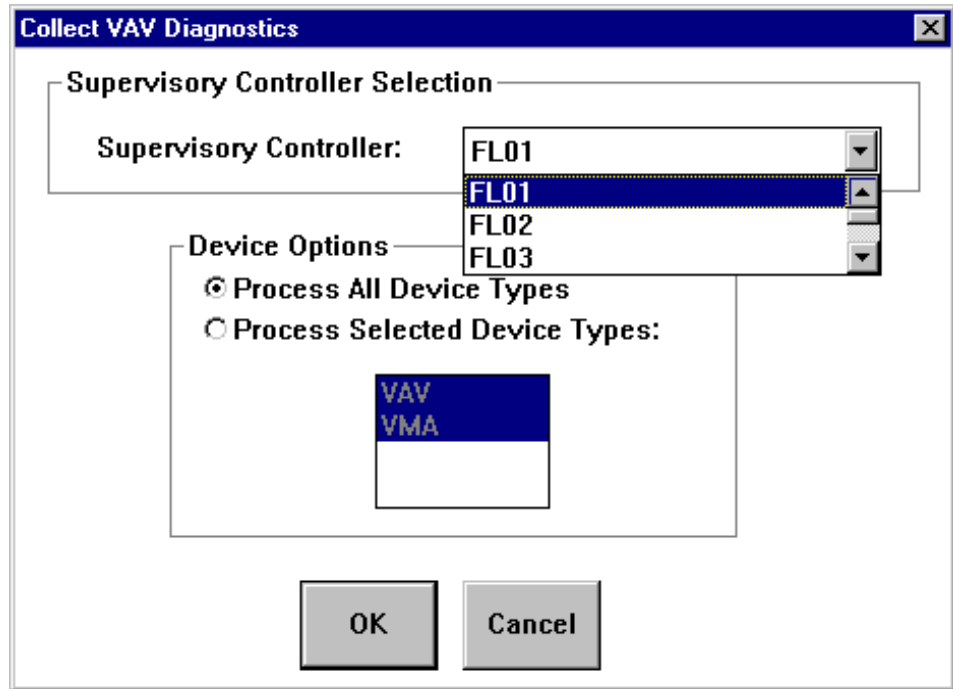

Figure 17-22: Collect VAV Diagnostics Dialog Box
1. On the Action menu, click Collect VAV Diagnostics. The Collect VAV Diagnostics dialog box appears (Figure 17-22).